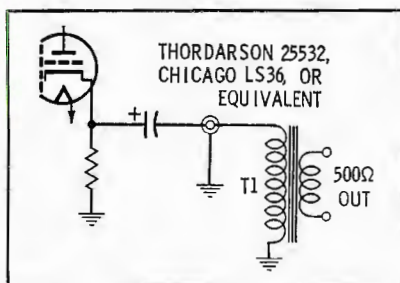

Fig. 6. Output circuit for low-Z tuners.
- (b) Apply a +10 dbm 400-cps signal to left channel. Adjust L - R (DSB) amplitude to obtain waveform display as shown in Fig. 6.